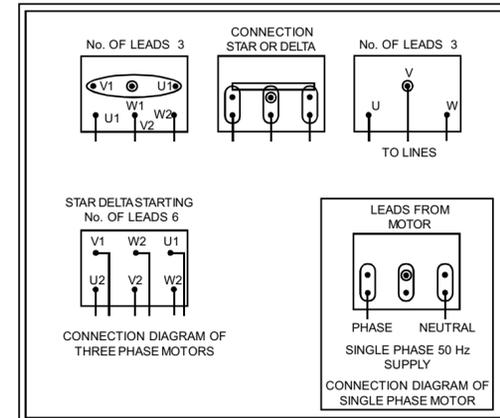

Fig. 5.3
- No. of bends and other fittings should be as minimum as possible to reduce frictional losses. (ref. fig. 5.3)